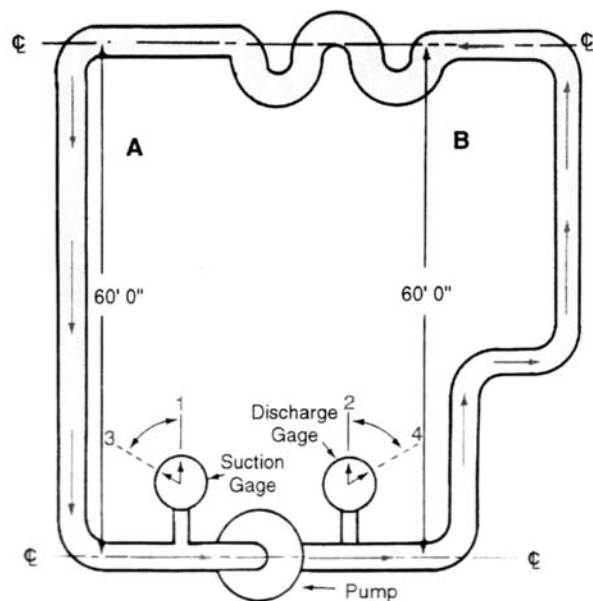
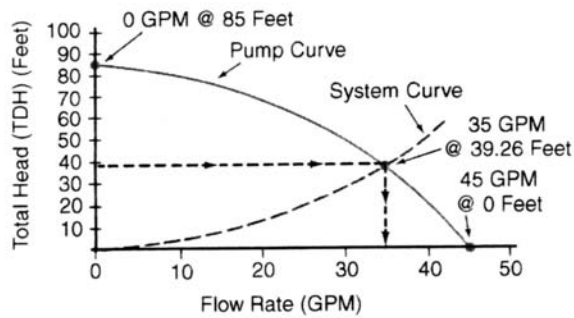

Fig. 1
Fig. 2
5. See Fig. 1. What is the ΔP if the suction gage reads 69.5 psig at position 3 and the discharge gage reads 100 psig at position 4?
7. Fig. 2 represents the pump curve for the pump shown in Fig. 1. What would be the flow rate of the pump in gpm if operating at an ΔP of 70.44 ft.